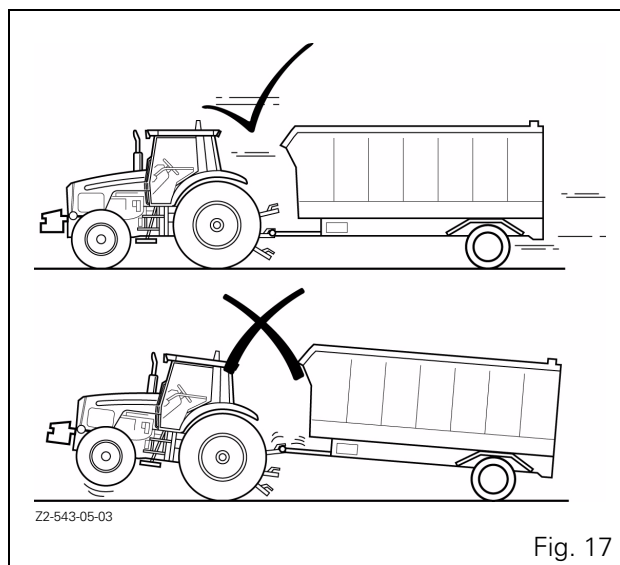

Fig. 17
- Pull only from the approved drawbars. Towing or attaching to other locations may cause the tractor to overturn (Fig. 17).